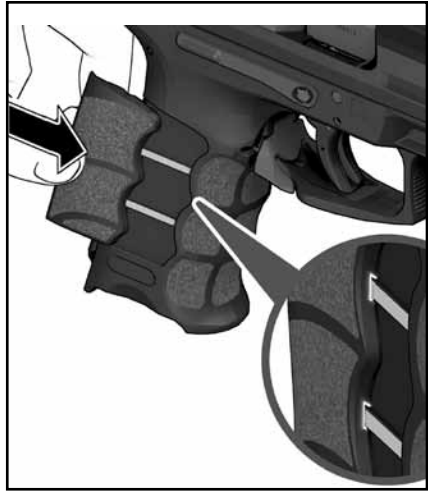

Figure 6
2. Install the two grooves on the inside of each grip panel onto the corresponding tongues located on the outside of the frame (Figure 5 and Figure 6) and push the panels forward until they seat flush into the frame.